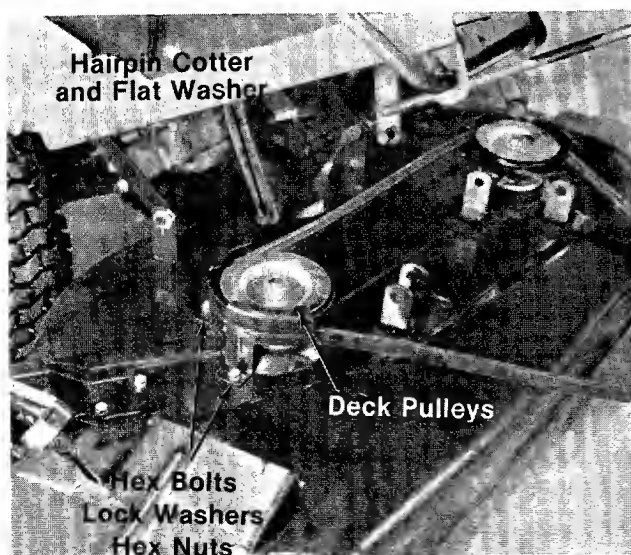

FIGURE 27.
5. Disconnect the six deck links by removing the hairpin cotters and flat washers. See figure 27.
7. Remove the belt guards at each deck pulley by removing the hex bolts, lock washers and hex nuts. See figure 27.